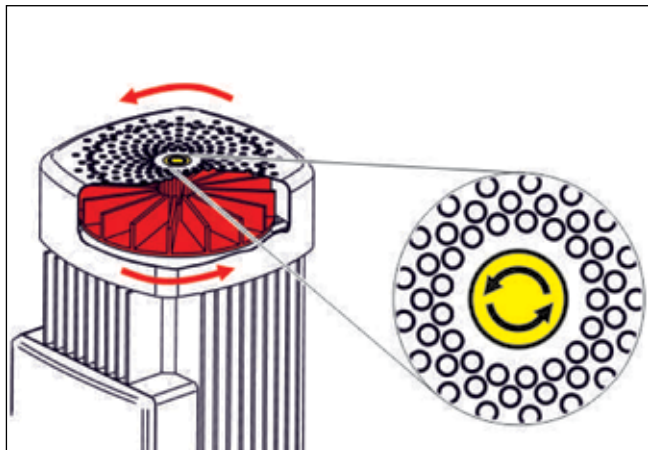

Figure 16: Checking the direction of rotation of the pump motor
- The direction of rotation of the pump motor must be checked at the same time. The motor fan wheel must rotate in the direction indicated on the motor cover. The fan wheel is visible through the holes in the motor cover. (Fig 16)